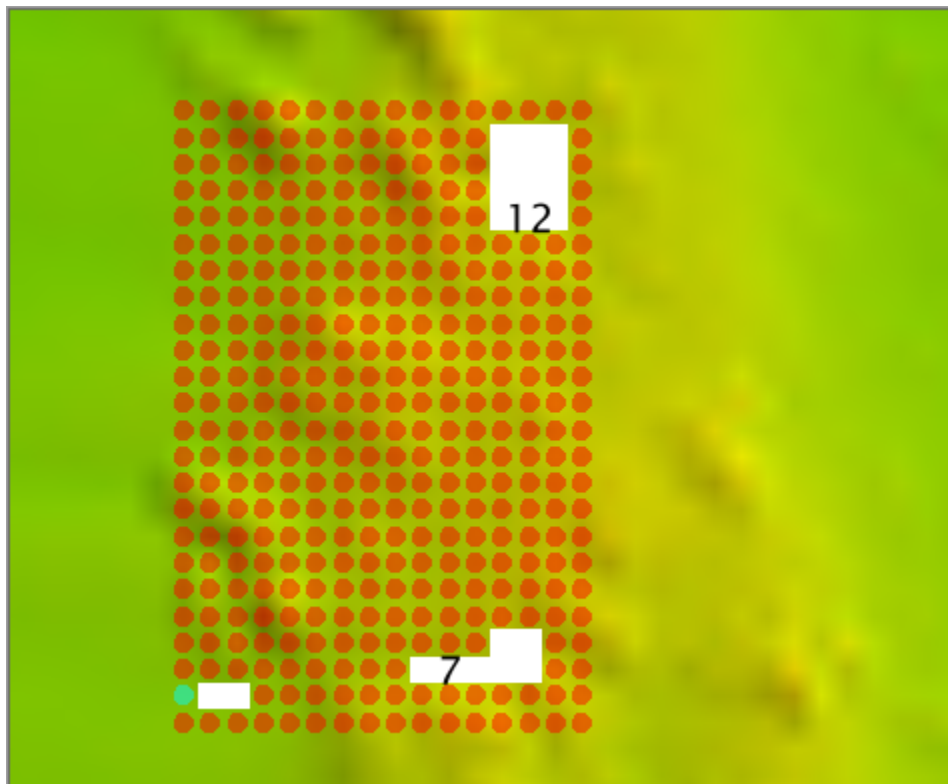

Fig. 2.17: Example for Object detection.
- In the example in (Fig. 2.17), Object Detection requirements identify the holes of 12 and 7 nodes, because each has 3 collinear, contiguous unpopulated nodes. The hole with 2 grids does not.